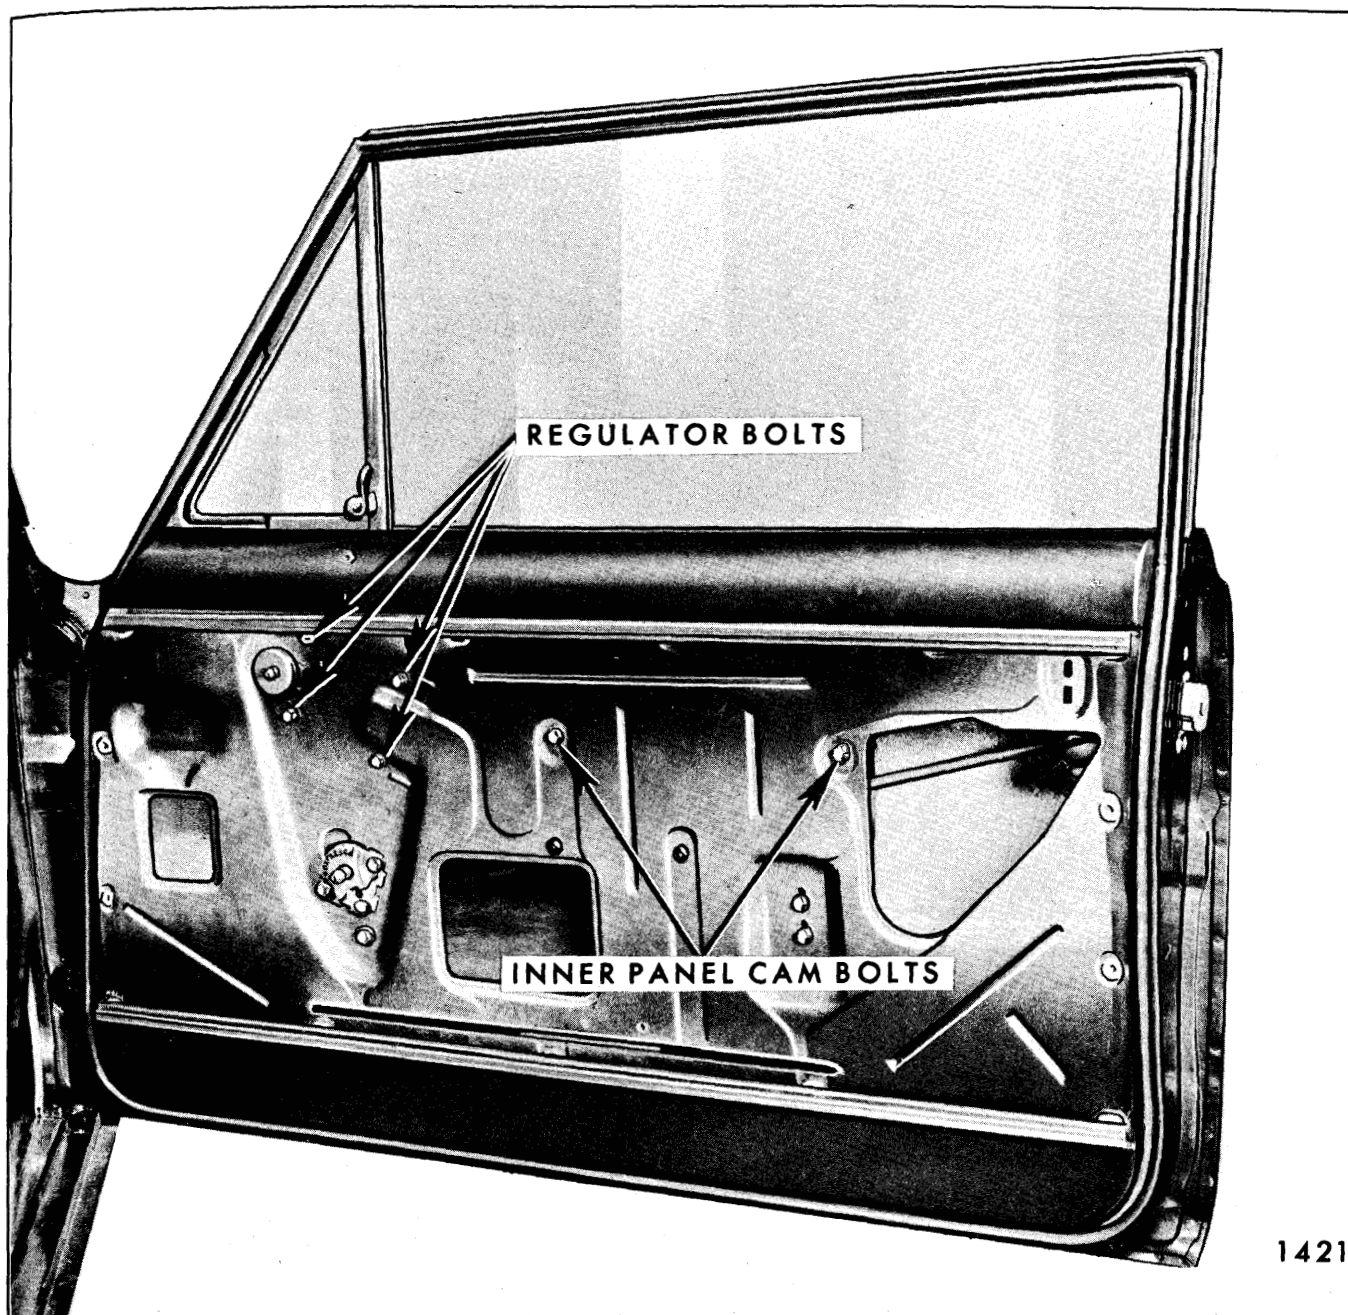

Fig. 7-75—Front Door Hardware - "X" Styles
5. Move door window forward to disengage regulator arm roller(s) from window lower sash channel cam and remove door glass outboard of door upper frame on "A" Body Styles and inboard of door upper frame on "X" Body Styles (see Fig. 7-74 for "A" Bodies and Fig. 7-75 for "X" Bodies).